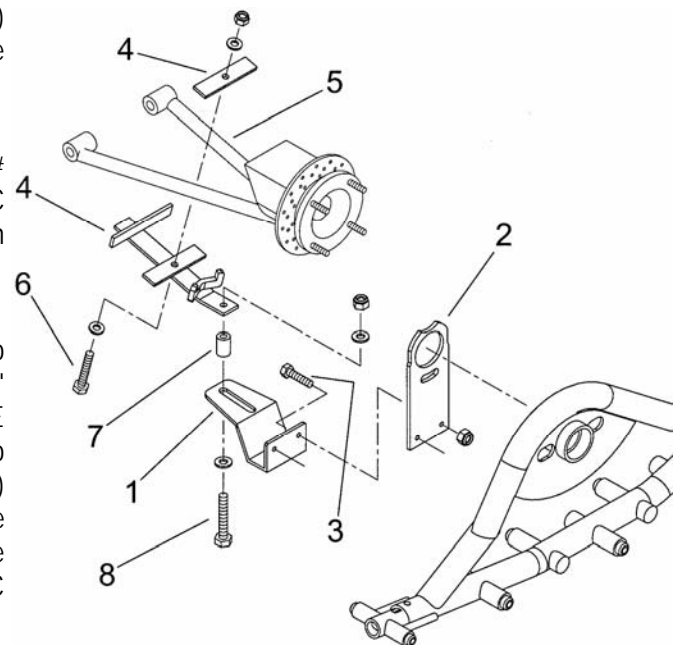

FIGURE 6
5. Fasten the retaining plate of the trail-arm (FIGURE 6, # 1) to the retaining plate (FIGURE 6, # 2) with two 3/8" NC x 1 1/4" LG bolts (FIGURE 6, # 3) and two 3/8" NC nylon nuts.
6. Install the fastening of the trail-arm (FIGURE 6, # 4) to the trail-arm of the vehicle (FIGURE 6, # 5) with a 7/16" NC x 2 1/2" LG hex. bolt, a 7/16" NC nylon nut (FIGURE 6, # 6) and two 7/16" DIA flat washers; then, fasten it to the retaining plate of the trail-arm (FIGURE 6, # 1) inserting the bushing (FIGURE 6, # 7) in the hole of the retaining plate of the trail-arm (FIGURE 6, # 1) using the hex. 1/2" NC x 2 1/2" LG bolt (FIGURE 6, # 8), a 1/2" NC nylon nut and two 1/2" DIA flat washers
Put some grease between the swivel plate (FIGURE 6, # 2) and the «J» plate of the tubular frame during storage and before reinstalling.